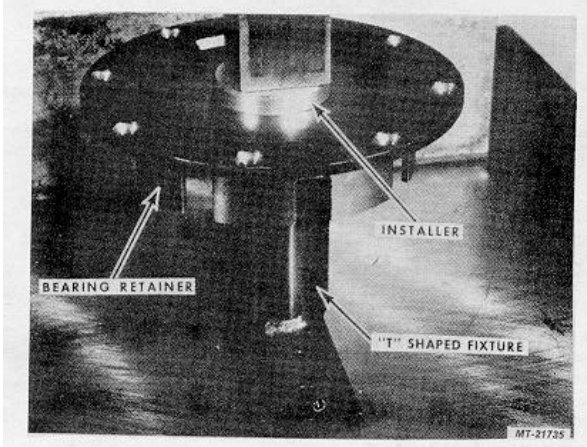

Fig. 43
6. Align Oil Seal straight with the bore and press the oil seal down until the Installer SE-2782-4 bottoms. After the Installer SE-2782-4 bottoms, rotate the Bearing Retainer to several different positions, each time pressing down to insure proper seating of the Installer SE-2782-4, Fig. 43.